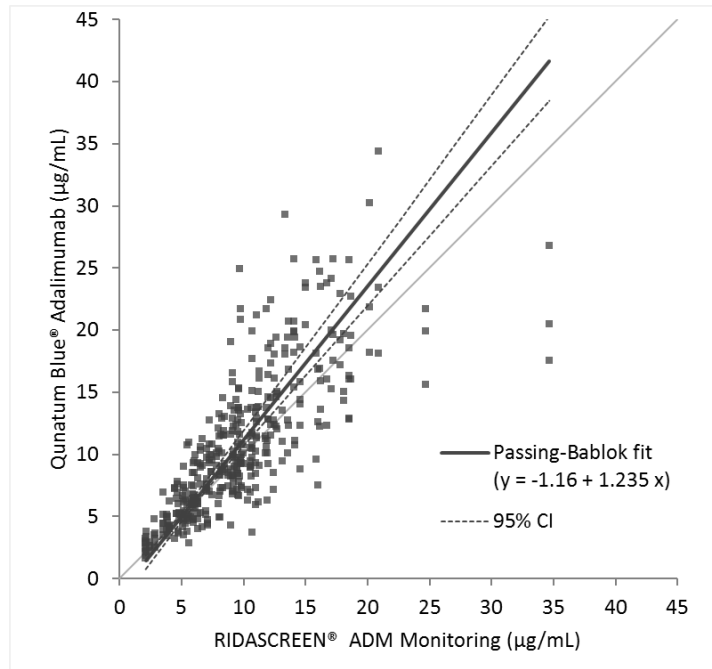

Figure 2
The method comparison study was performed according to the CLSI guideline EP09-A3. One hundred and thirty (130) clinical and contrived (3.1% of total) samples were measured in triplicate with the Quantum Blue® Adalimumab test, resulting in 390 values, and with a commercially available adalimumab ELISA test (ref. 7). Measurements were performed over four days using two Quantum Blue® Adalimumab test cassette lots. The results are summarized in figure 2.